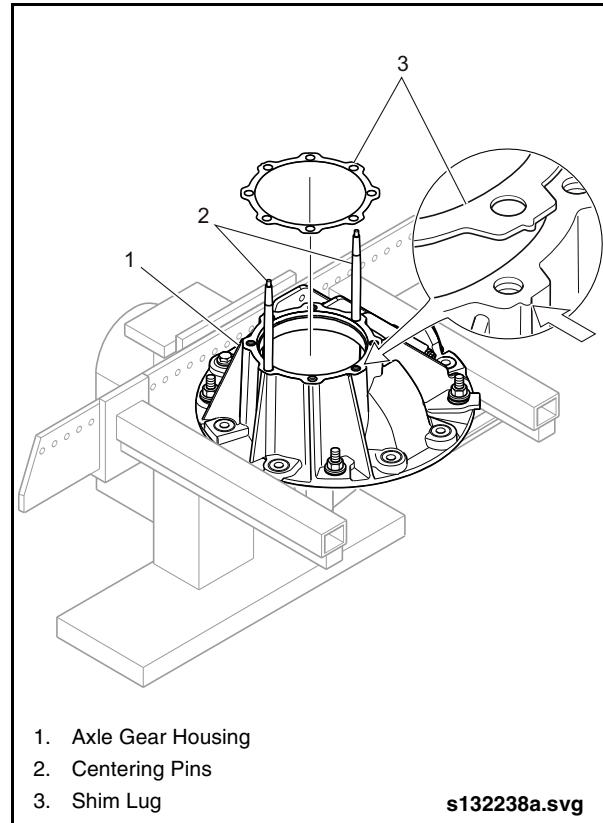

Fig. 2-80: Installing Shims
2. Install shims so that the lug on the shim aligns with the lug marking on the axle gear housing. See "Fig. 2-80: Installing Shims" on page 67.